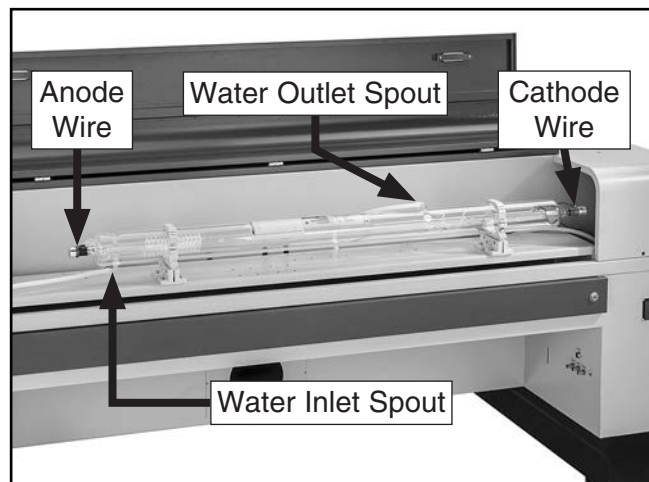

Figure 96. Laser tube component locations.
7. Disconnect anode and cathode wires from laser tube (see **Figure 96**).
8. At laser tube INLET and OUTLET water spouts (see **Figure 96**), cut off water hose at end of spout, and with utility knife, carefully slit remaining hose until it can be peeled off.